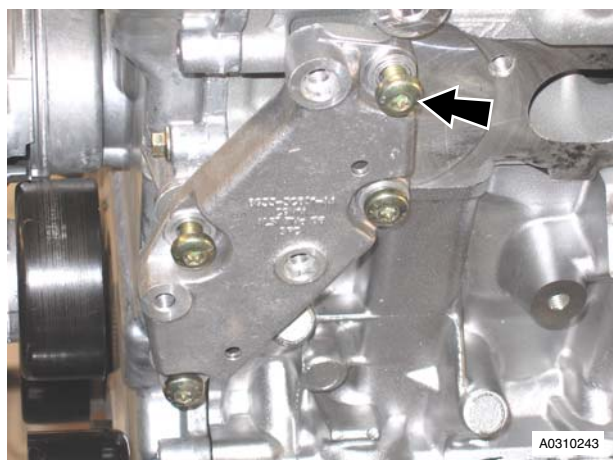

Figure 6
- Remove the four M8 Torx bolts that attach the PAS pump mounting bracket to the cylinder block and remove the bracket (refer to Figure 6).